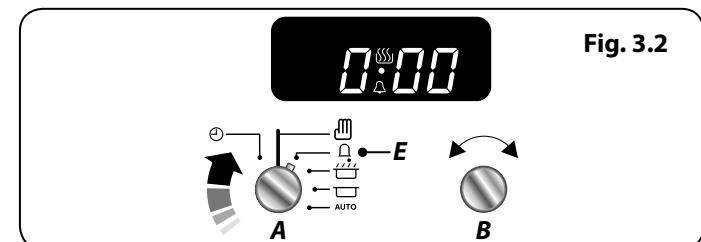

Fig. 3.2
- Turn the **Timer (A)** knob to the **Minute Minder (E)** setting – it should click into position (**Fig. 3.2**).